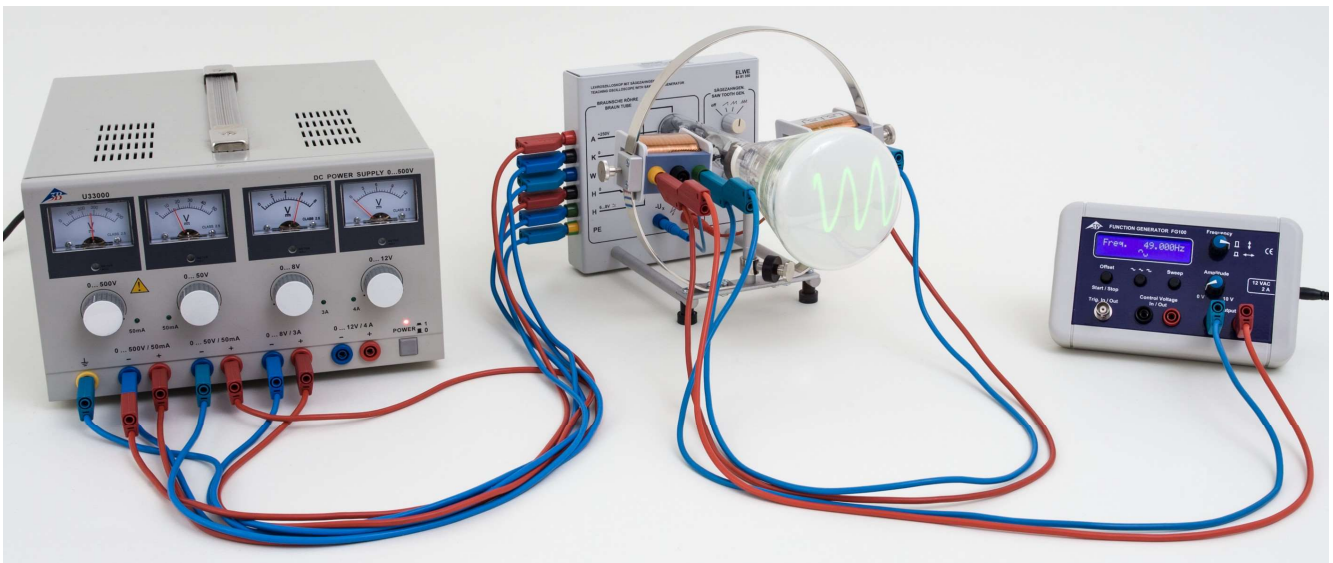

Fig. 1: Disposición de medición.
- Changing the function generator frequency requires modification of the saw-tooth frequency applied to the tube in order to obtain a trace similar to that in Fig. 1.